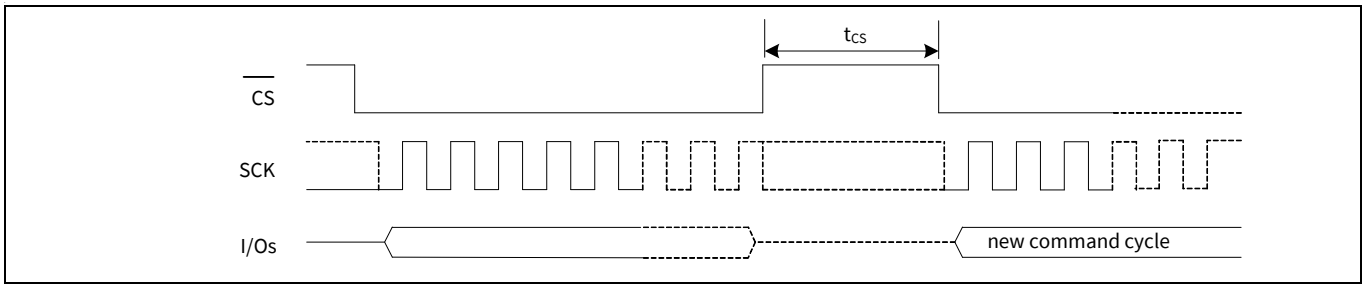

Figure 116 Chip deselect (\overline{CS} HIGH) - t_{CS} timing
21. t_{CS} is the minimum chip deselect (\overline{CS} HIGH) time before the new command cycle starts in a specific SPI mode (SPI, DPI or QPI). This parameter ensures that previous operation is successfully completed before the host starts a new command cycle. Refer to **Figure 116**.
21. t_{CS} is the minimum chip deselect (\overline{CS} HIGH) time before the new command cycle starts in a specific SPI mode (SPI, DPI or QPI). This parameter ensures that previous operation is successfully completed before the host starts a new command cycle. Refer to Figure 116.
25. t_{CS} is the minimum chip deselect (\overline{CS} HIGH) time before the new command cycle starts in a specific SPI mode (SPI or QPI). This parameter ensures that previous operation is successfully completed before the host starts a new command cycle. Refer to **Figure 116**.